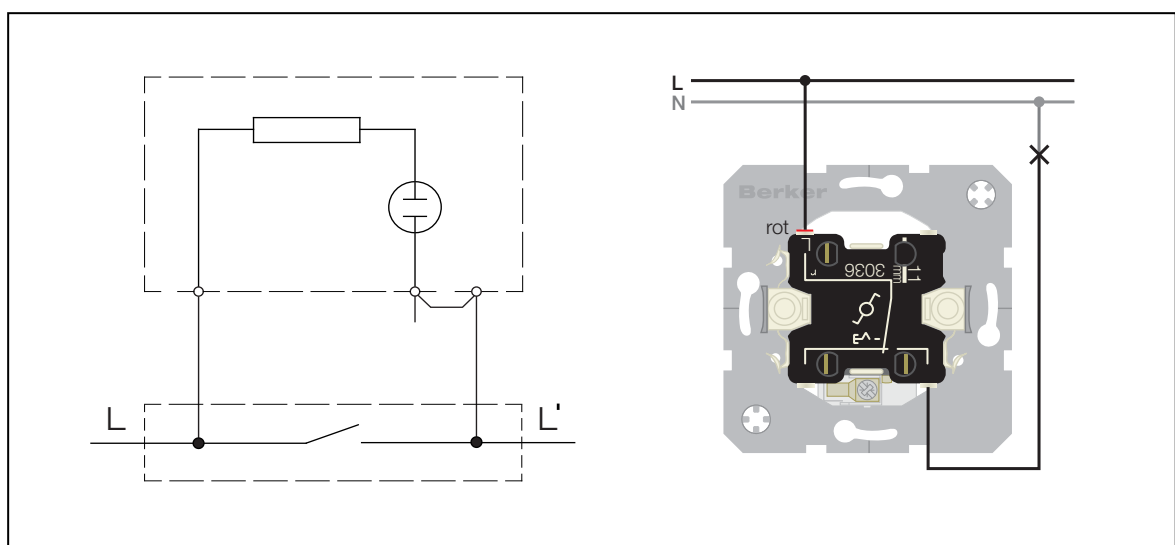

Figure 3
- Connect switch acc. to wiring diagram (Figure 3).